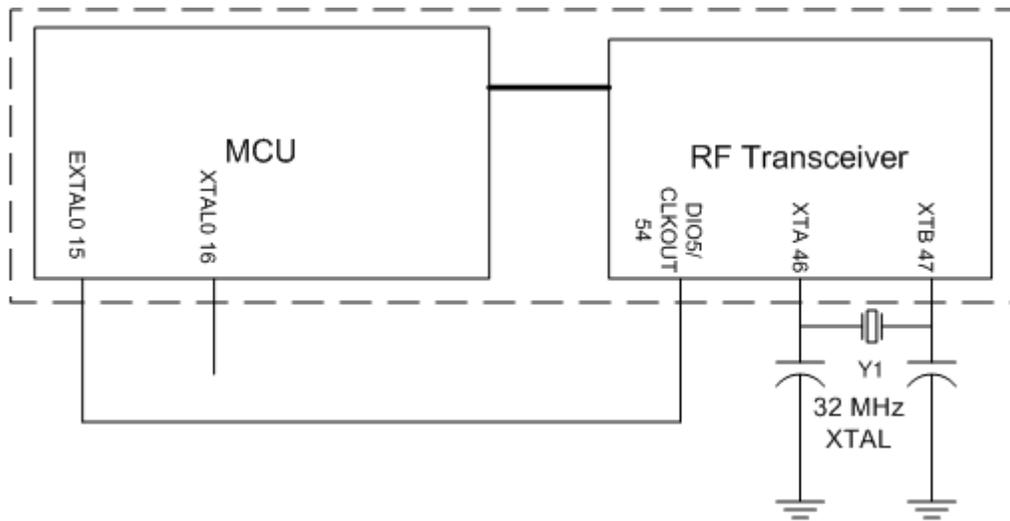
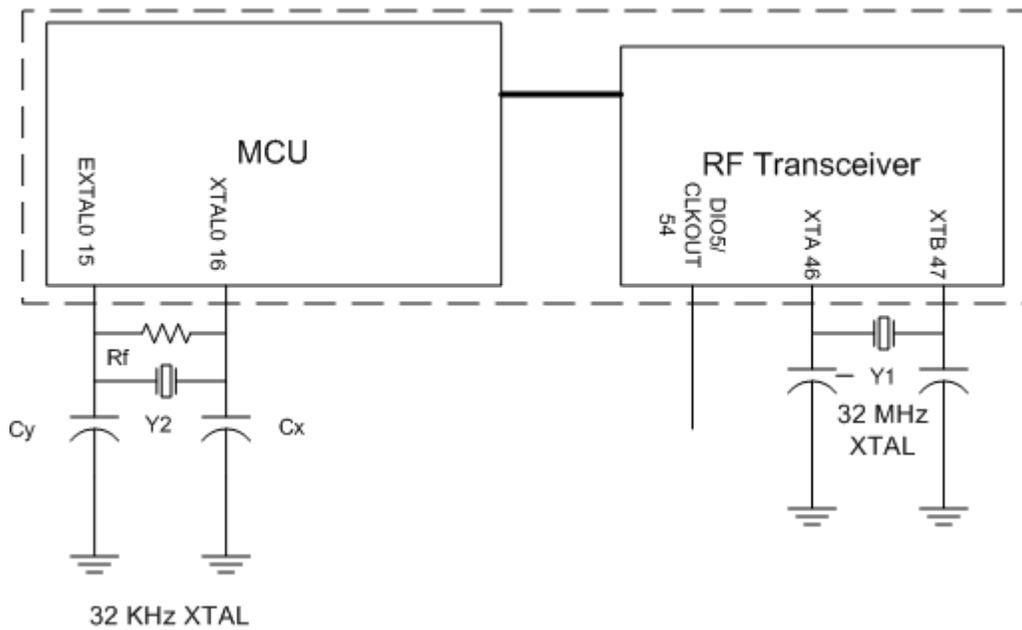

Figure 3. MKW01 Single Crystal System Clock Connection
Figure 4. MKW01 Two Crystal System Clock Connection
- Pins 46 & 47 are provided to input a 32 or 30 MHz crystal for the transceiver reference clock source (required) as shown in Figure 3.
- The transceiver can be programmed to provide a programmable frequency clock output (DIO5 which alternates as CLKOUT, pin 54) that can be used as an external source to the CPU (see Figure 3 and Figure 4). As a result, a single crystal system clock solution is possible where the transceiver reference clock source. Routing CLKOUT to the MCU without dividing it is recommended, but it can be divided by 2, 4, 8, 16 and 32.